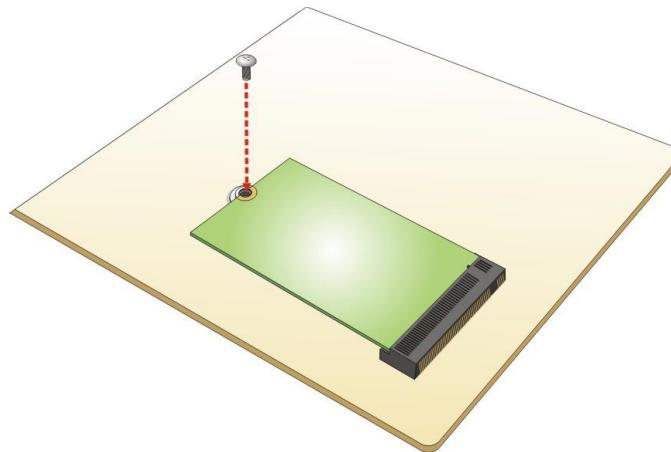

Figure 3-10: Securing the M.2 Module
Step 4: Secure the M.2 module with the previously removed retention screw (**Figure 3-10**).